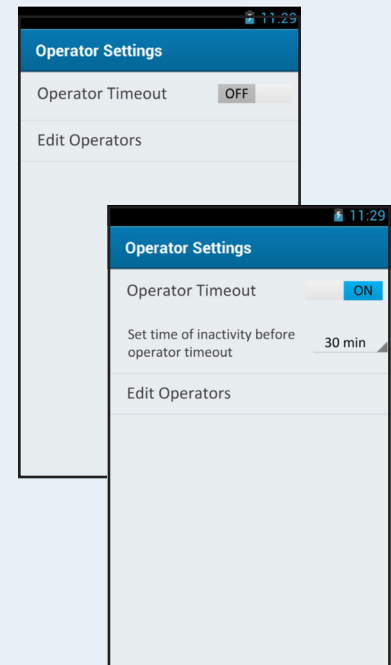

Figure 3-16:
2. Press **ADMINISTRATOR SETTINGS** and log in to the device. Press **Operator Settings** and the **Operator Settings Menu** will display (Figure 3-16).